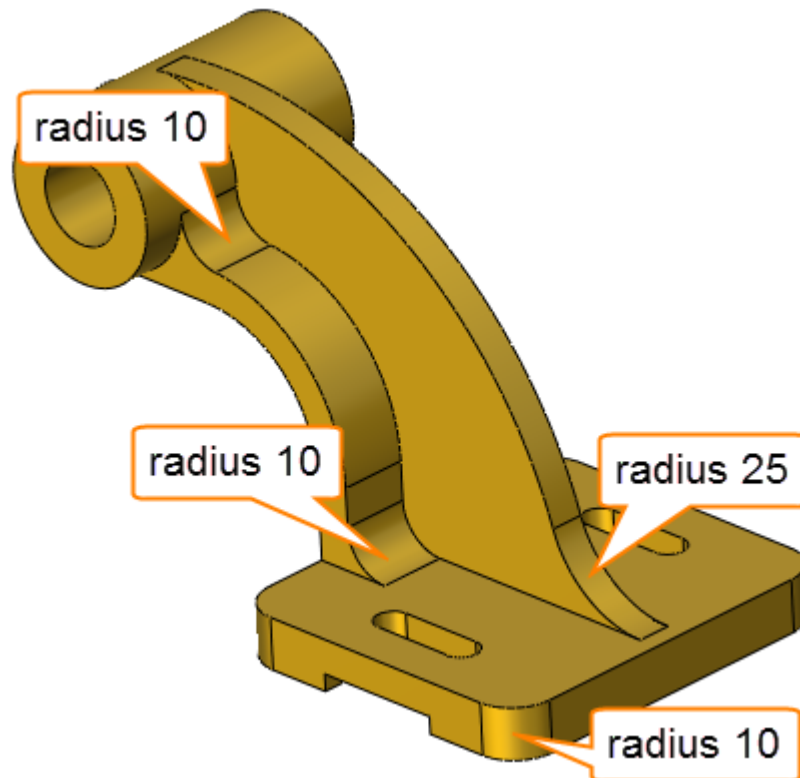

Figure 113 Fillet Result
STEP 01 Select the edges and set the suitable radius to create the fillet feature. The result is shown in the Figure113.